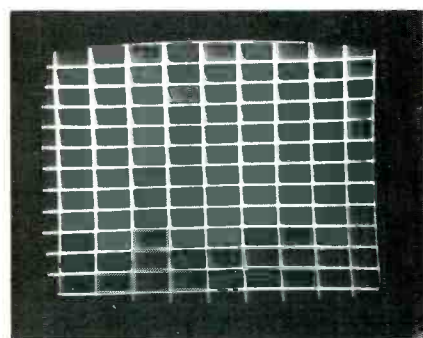

Fig. 20 When all components are normal, the vertical deflection of the RCA CTC58 has more-than-enough height with excellent linearity.
- When all components are normal, the linearity is nearly perfect (Figure 20).